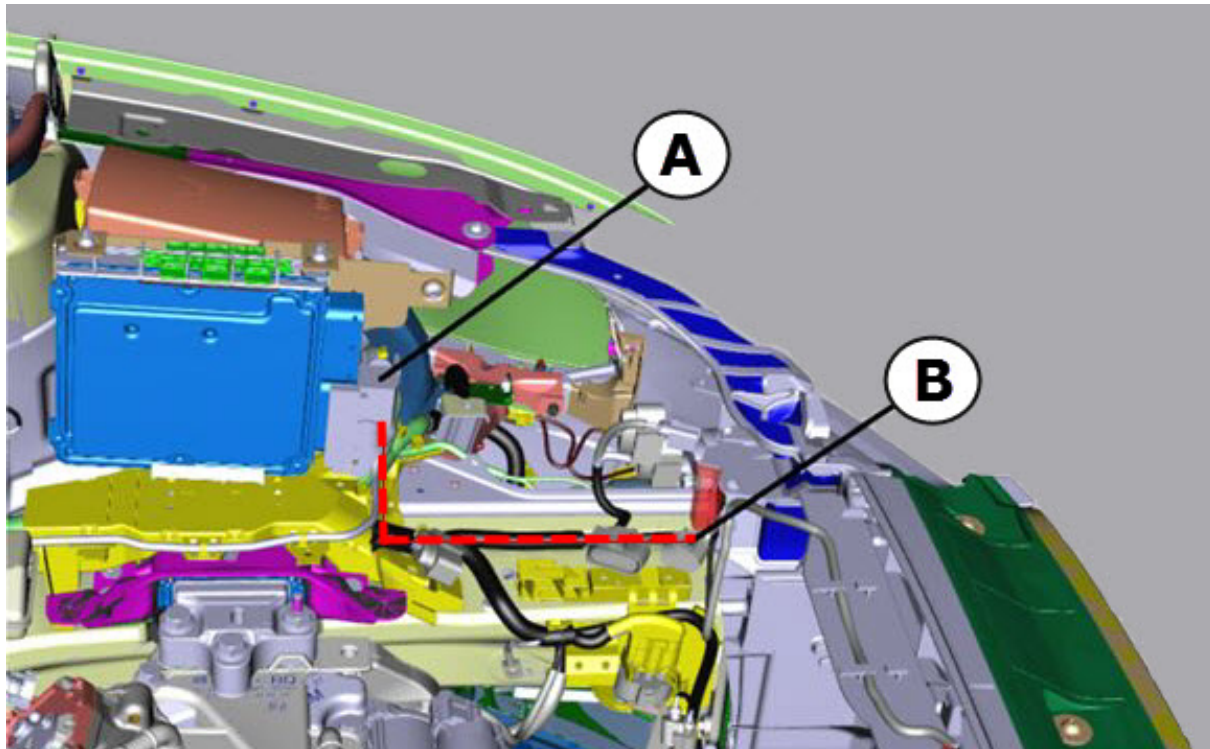

Figure 1. Pin 39 on connector T91 (A), pin 1 on connector T14 (B), start and end route for the missing wire (dotted red line).
- Route a new cable from pin 39 on connector T91 to pin 1 of connector T14 (grey connector, part number 5Q0 973 737) on the vehicle end. See Elsa repair manual for location. Route the missing wire along the wiring harness (Figure 1).